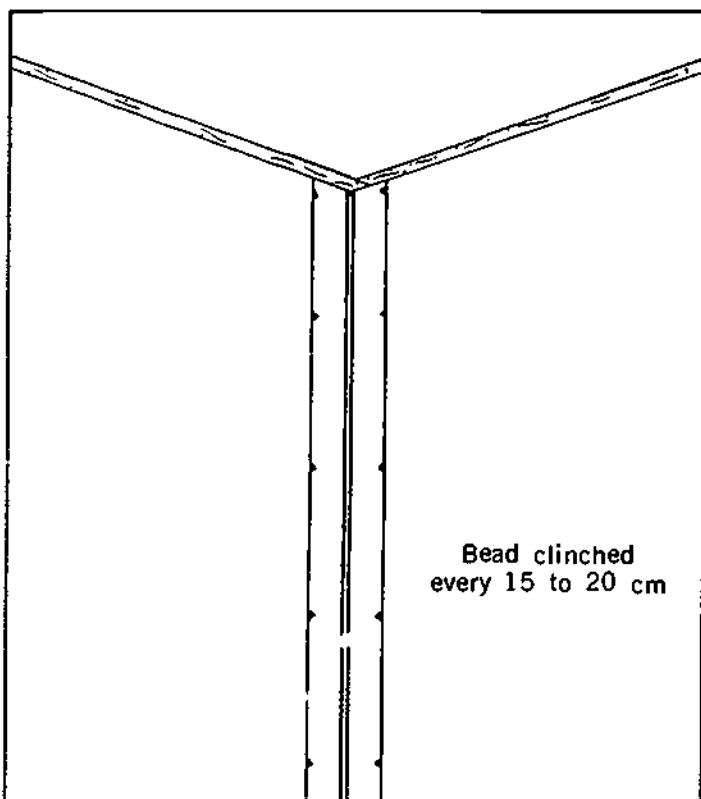

Figure 3-20
5. Move the clincher towards the ceiling striking the head every 15 cm to 20 cm (Figure 3-20). Maintain an even pressure on the bead and keep it square. Avoid hitting nails or screws with the teeth of the clincher because you may damage the teeth.